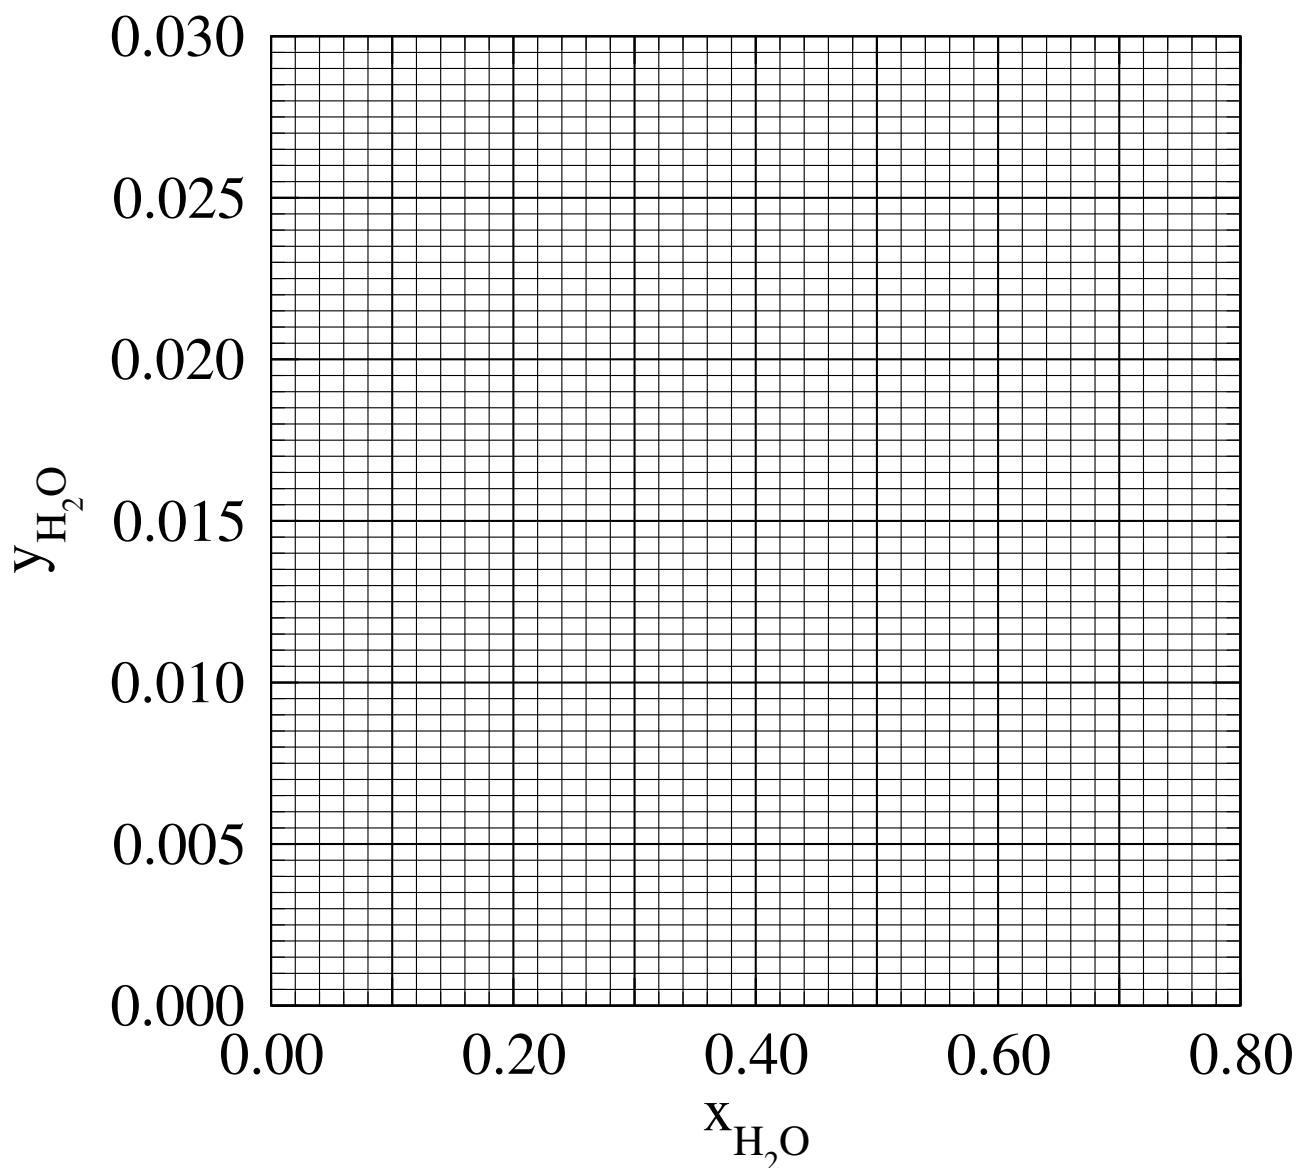

Figure 13: Blank graph for the air dryer in Q. 12.
- b) Using the equilibrium data provided in Table 2, determine the number of equilibrium stages required to perform the absorption. Plot your graph in  $x$ - $y$  coordinates on Fig. 13 and ensure that you adequately capture the curvature of the operating line (or use  $X$ - $Y$  coordinates). [12 marks]